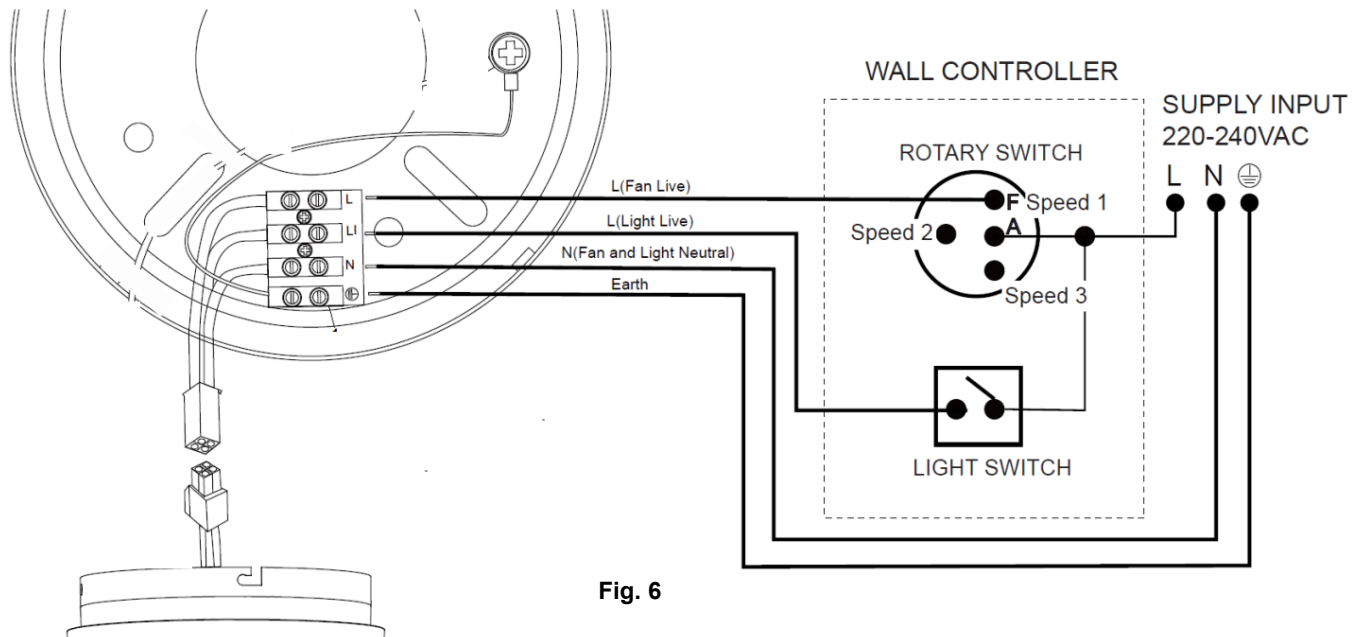

Fig. 6
- Complete the electrical wiring using the diagram below (Fig.6).